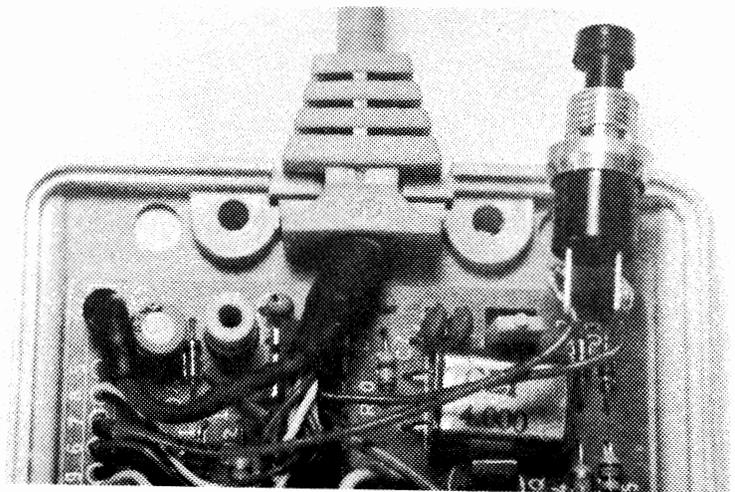

Figure 6
Step 14. Solder the original wire from the mouse cord (the one you'd unsoldered earlier) to the other terminal of the switch; see Figure 6. (Notice that my new wire is stretched kind of tight. That's because I made it too short. It works, but you'll be better off with a 2.5" piece)